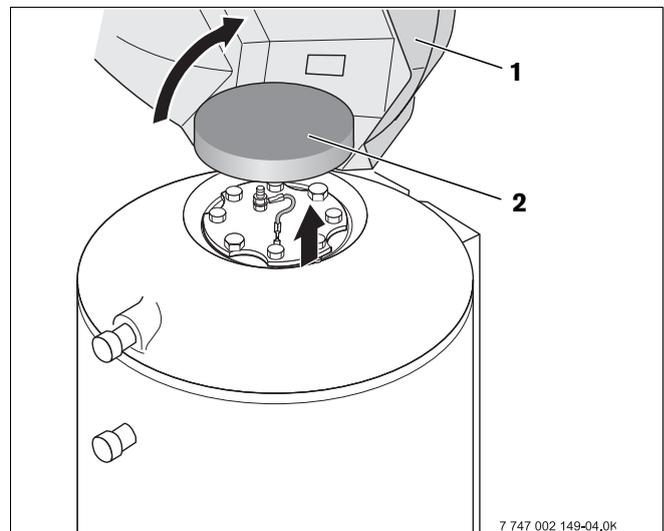

Fig. 12 Removing the casing lid
- Remove the casing lid (Fig. 12, **Item 1**). To do so, remove the four screws on the side.
- Remove the thermal insulating element (Fig. 12, **Item 2**) on top of the access port cover.